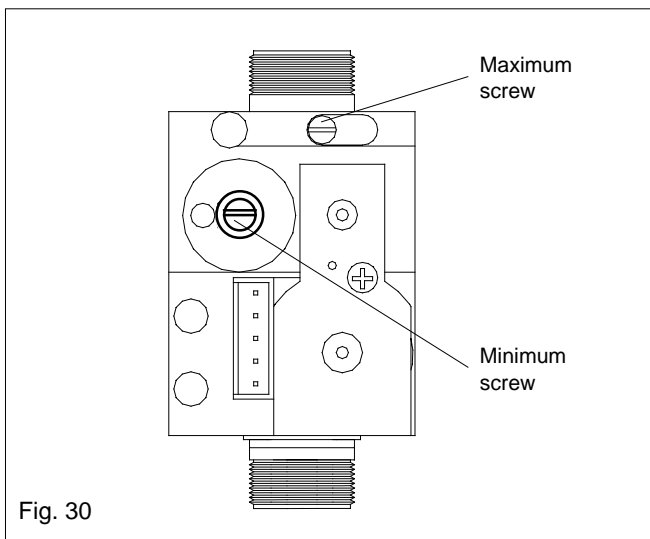

Fig. 30
- Using a suitable screwdriver, very slowly turn the minimum adjustment screw (fig. 30) – clockwise to increase, counter clockwise to decrease – until the correct value is displayed on the CO₂ analyser (allow time for the analyser to stabilise).
- Using a suitable screwdriver, very slowly turn the maximum adjustment screw (fig. 30) – clockwise to increase, counter clockwise to decrease – until the correct value is displayed on the CO₂ analyser (allow time for the analyser to stabilise).